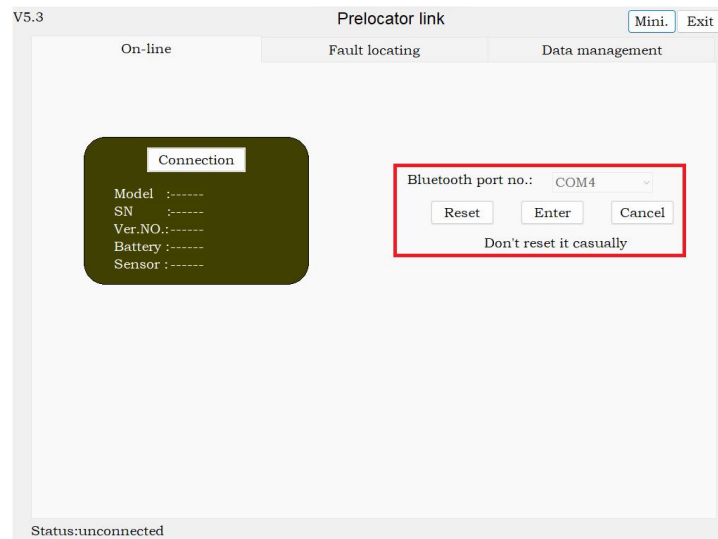

Fig.2-2
2.2.1 After successful Bluetooth configuration, open the on-line interface of Prelocator Link as below Fig.2-2
2.2.2 Click [Reset] to enable the modification of the Bluetooth serial port number, select the correct Bluetooth virtual serial port number (COM4 in Figure 2-2), and click [Enter] to save the configuration.